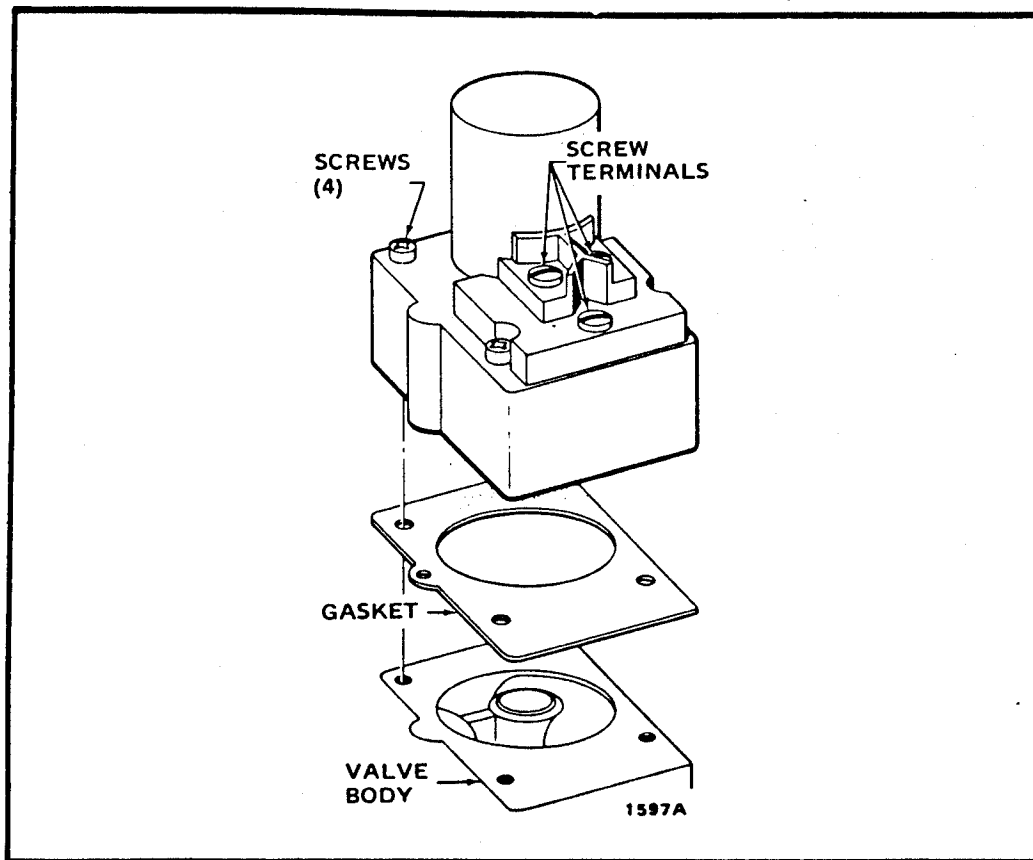

Fig. 30—Mounting V8285 Valve Operator.
2. Remove the screws and lift off the old operator, or cover plate, and gasket (Fig. 30).